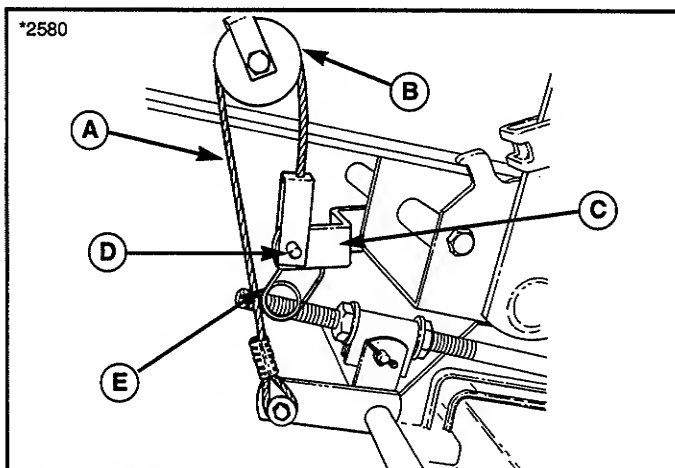

Figure 7. Mower With Manual Lift (Left Side Shown)
4. **Manual Lift.** See figure 7. Position the left and right mower lift cables (A) over the lift pulleys (B) and fasten each cable to the tractor lift arm (C) using the clevis pins (D) and safety clips (E). Install clevis pins from the left side of tractor lift arms with safety clips installed on the right side of lift arms.
4. Disconnect the mower lift arms from the tractor lift arm (figure 7 & 8). Re-install clevis pins, washers and safety clips on mower lift arms for storage.